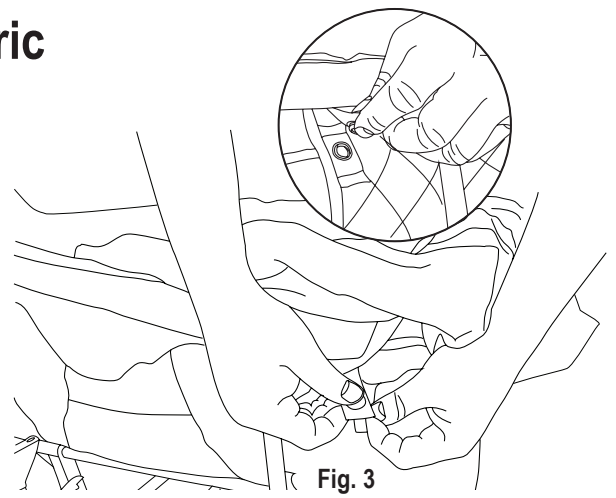

Fig. 3
- Lift the skirt on the liner, snap all (8) of the straps around the top tube of the frame and all (4) snaps to the underside of the mattress boards (Fig. 3).